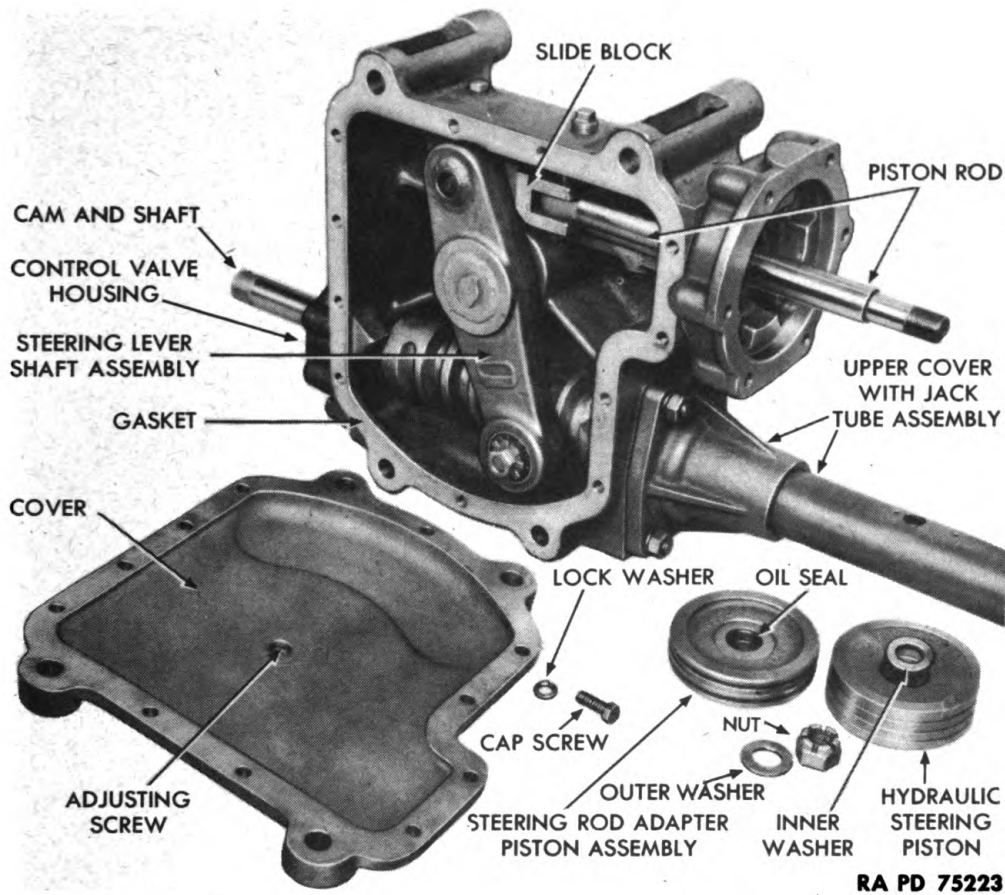

Figure 14 – Steering Gear Housing – Cover Removed
b. Disassemble Housing (fig. 14). Remove cap screws and lock washers that hold side cover on housing, and remove cover and cover gasket. Remove adjusting screw and lock nut. Lift steering lever shaft assembly out of housing.
c. Remove Slides and Slide Block (fig. 14). Remove two cotter pins, and pull pin out of slide block, then pull piston rod out of housing. Remove four cap screws and lock washers, and remove slides and slide block.
f. Disassemble Steering Lever Shaft (figs. 14 and 15). Straighten leg of washer, and remove nut and washer. Drive stud out of shaft, and remove rollers. Press cones out of shaft.
b. Assemble Steering Housing (figs. 14 and 16). Install cylinder housing and gasket on steering housing, and fasten with nuts and lock washers. Press two camshaft upper and lower bushings and steering lever shaft bushings in housing. Install worm and shaft.